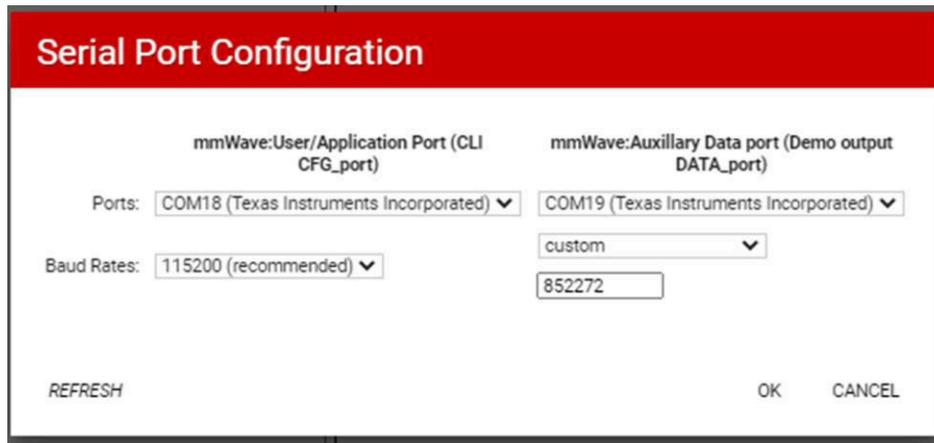

Figure 1-3. Serial Port Configuration in App
2. In the browser app, navigate to Menu → Options → Serial Port and set up the COM ports in the pop-up window as follows (see Figure 1-3).